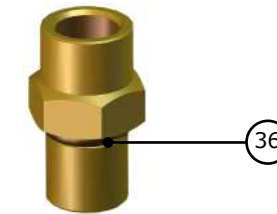

Fig. 7
- 9)** Sostituire e lubrificare O-ring (36) montato sul raccordo ingresso gas (12), (fig.7);
*Replace and lubricate the O-ring (36) mounted on the gas inlet plug (12), (fig.7);*